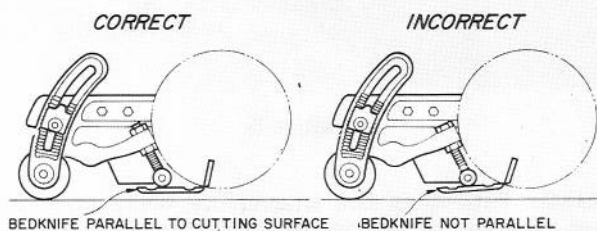

Figure 7
2. Check bedknife attitude. When viewed from the side, bottom of bedknife must be parallel with flat surface or raised at the rear (Fig. 7). If bedknife is not parallel with flat surface (Fig. 7), adjust rod ends; refer to Adjusting Rod Ends, page 18.